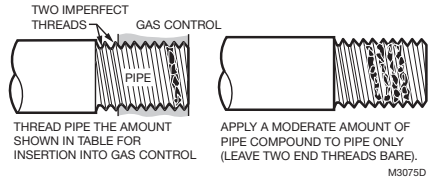

Fig. 3. Use moderate amount of pipe compound.
4. Apply a moderate amount of good quality pipe compound (do not use Teflon tape) to pipe only, leaving two end threads bare. On LP installations, use compound resistant to LP gas. Refer to Fig. 3.